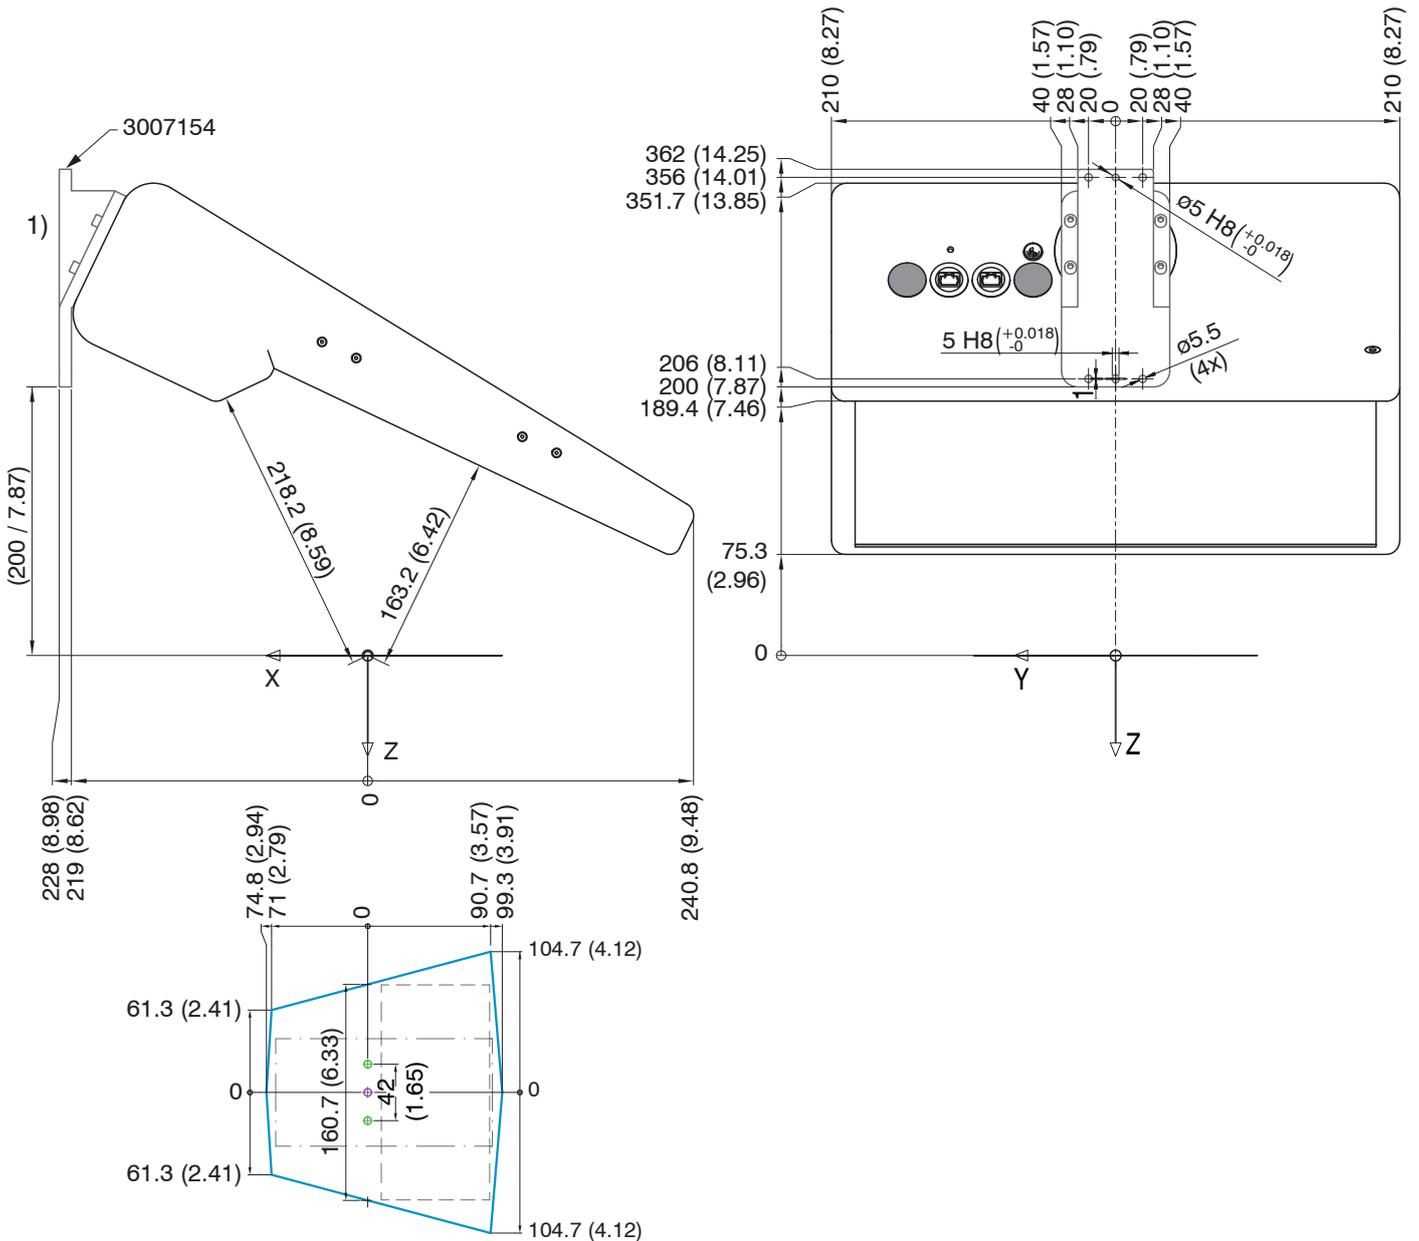

Fig. 2 Dimensional drawing of RCS130-160 measuring system with measuring window
1) Size specifications refer to the reference plane. Trapezoidal measuring field - the medium width is specified. Exact dimensions, see Fig. 2.
The surface of the target must be in the depth of field range of the lenses both for the defect detection as well as for the 3D reconstruction. The tolerances for the vertical positioning are approx.  $40\ \mu\text{m}$  ( $-20\ \mu\text{m}$  to  $+20\ \mu\text{m}$ ). The dimensions of the measuring fields that the target must be located within can be found in the dimensional drawing, see Fig. 2.